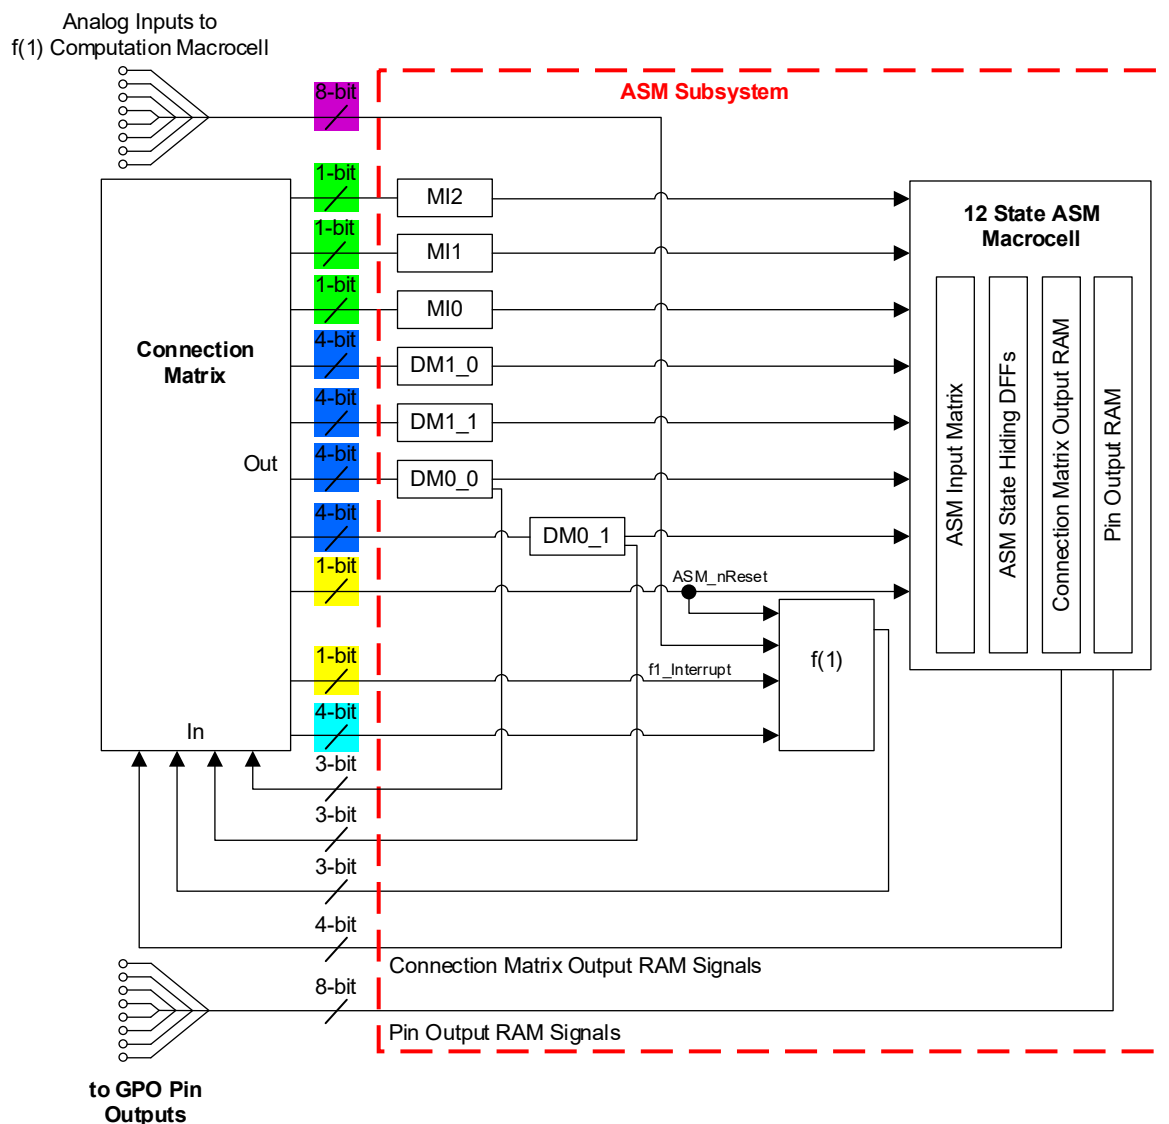
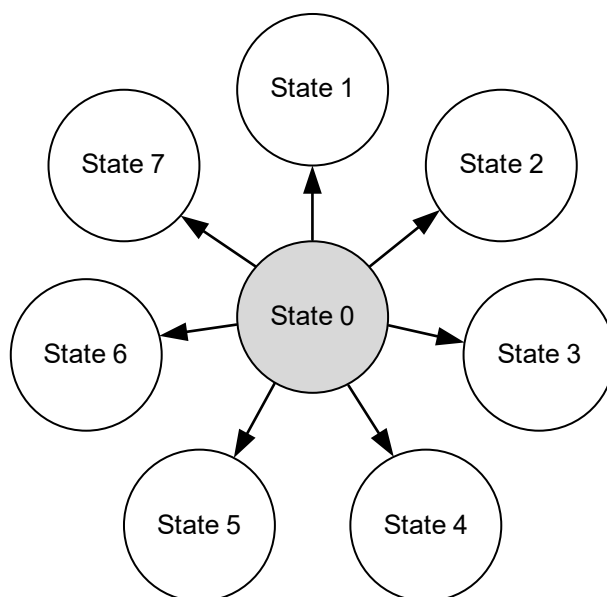

Figure 91. ASM Subsystem Input Signals
Figure 92. Maximum 7 State Transitions out of a Given State
The ASM Subsystem has a total of 25 digital input signal lines, as shown in Figure 91, which all come from the Connection Matrix outputs. Of these 25 input signals, 3 are user selectable inputs going directly from the Connection Matrix to the three Matrix Interface (MI) macrocells. There are a total of 16 input signals that go to the DMx_x macrocell, four per macrocell. There is 1 ASM_nReset input that is for driving a state transition in both the ASM macrocell and the f(1) Computation Macrocell to an Initial/Reset state. There are 4 digital input signals coming from the Connection Matrix to the f(1) Computation Macrocell. There is also 1 dedicated Interrupt input to the f(1) Computation Macrocell that will halt any active operations and transfer control back to the ASM macrocell. Each of the 25 input signals are level sensitive.
There are a total of 16 digital input signals to the ASM Subsystem which are inputs directly to the DM macrocells. These 16 signals are shown in Figure 91, highlighted in blue. While there are 4 input signals coming from the Connection Matrix and going to each DMx_x macrocell, there is only 1 output signal from each of these macrocells, which goes directly to the ASM macrocell. There are also 3 signal lines that come directly from the Connection Matrix and go to the three Matrix Interface (MI) macrocells which can drive state transitions. These signals are shown in Figure 91, highlighted in green. This sets an upper bound on the number of transitions that the user can select going out of a particular state to be 7, shown in Figure 92. There is no limitation on the number of unique transitions that can be supported going into a particular state, the user can select to have
There are a total of 8 analog inputs coming from various pins which can be muxed into the positive input for the f(1) Analog Comparator inside the f(1) Computation Macrocell. These 8 signals are shown in Figure 91, highlighted in pink. The f(1) Analog Comparator can be re-programmed for analog input source and negative input reference settings. The user selections for both positive input signal and negative reference are included as part of the information stored in the f(1) Command Register Table. This allows the user to make different analog measurements that are state dependent in their analog sources and reference settings.
The ASM macrocell also has an ASM_nReset input. This input to the ASM macrocell is level sensitive and active LOW. This signal is shown in Figure 91, highlighted in yellow. An active signal on this input will drive an immediate state transition to the user-defined Initial/Reset state. The user can choose which state within the ASM Editor inside Go Configure Software Hub will be the reset state.
There is also 1 dedicated f1_Interrupt input to the f(1) Computation Macrocell that will halt any active operations and transfer control back to the ASM macrocell. This signal is shown in Figure 91, also highlighted in yellow.